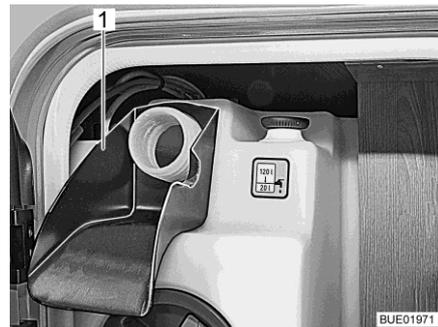

Fig. 276 Filling aid
- Plug the filling aid (Fig. 276,1) onto the drinking water filler neck.